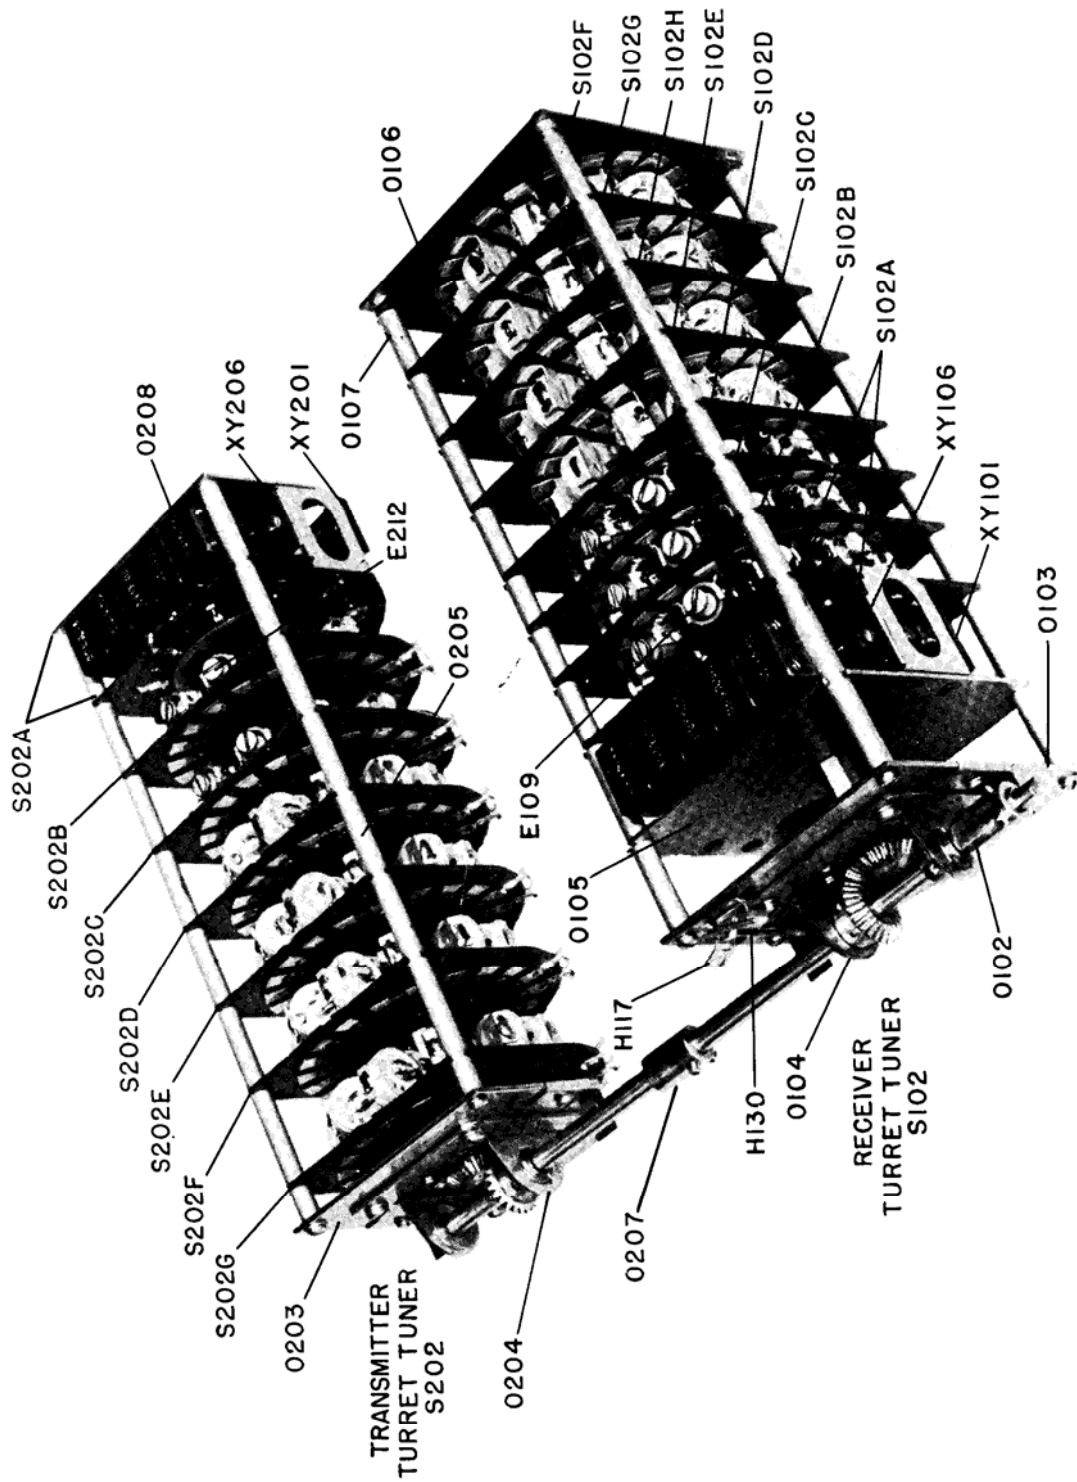

Figure 6-10. Receiver and Transmitter Turret Tuners
(See figures 6-10.)
*d.* TURRET TUNER WAFER SWITCH REPLACEMENT.—To replace a wafer switch, the turret tuner must be completely disconnected from the chassis per paragraph c above. Remove the three screws on each end of the tuner holding the three aluminum spacing rods (O107 or O205) and removable plate (O106). (See figure 6-10.) All wafer sections must be removed at the end away from the detent. Use care in pulling the wafer from the switch shaft. To place new wafer on switch, place on the shaft so that the tunable ele-
*e.* CRYSTAL SWITCH AND HOLDER REPLACEMENT.—Crystal switch and holder (S102A or S202A) may be replaced as a unit if the tuner is removed from the chassis, in the same manner as the wafer switch replacement discussed above. On the transmitter it is the first switch section removed. (See figure 6-10.) However, on the receiver it is the last section removed and entails quite a lot of work. If only the crystal holder socket (XY101 or XY106) is broken on the receiver, it is easier to replace just the socket and the associated wiring. This can be done without removing the turret tuner from the receiver chassis or the receiver chassis from the complete assembly. Remove the three screws on the detent end of the tuner, from the spacer rods (0107). Remove the two screws holding each crystal socket to the metal plate. Spread the spacer rods apart enough to allow the plate to slide forward. Enough room is available to change crystal sockets. Make a wiring diagram to facilitate hookup. Refer to the receiver wiring diagram apron, figure 6-24.
*f.* TUNER DETENT REPLACEMENT.—The detent (0103 or 0203) consists of the switch shaft, detent spring, balls, front plate, and gear. All of these parts are replaced as one unit except for the balls which may be replaced separately. Remove the turret assembly from the chassis as indicated in paragraph 21.c. of this section. Remove the three screws holding the front plate to the spacer rods (0107 or 0205). See figure 6-10. Pull the shaft from the wafer switches. Use extreme care in removing the shaft from the wafers. Exchange the turret tuner drive assembly (0104) or (0204). Be sure that the slot on the drive shaft is perpendicular to the chassis. (See paragraph *g* below.) Reassemble the turret tuner in the reverse order of disassembly.